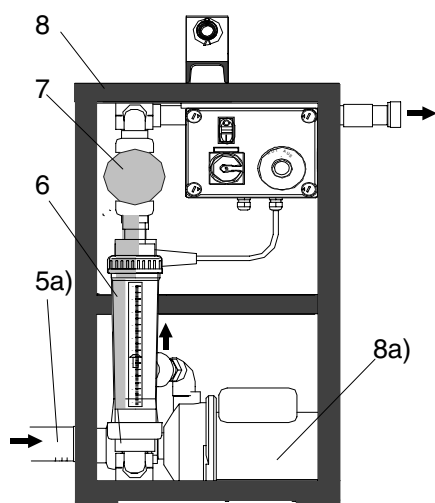

Fig. 2.2
The pump is mounted in a stator (8) which conducts the forces due to weight out of the channel and the vibrations of the pump into the substrate (Fig. 2.2). The pump (8a) is a centrifugal pump with a flanged-on AC motor. On the intake side the pump is connected to the reservoir by way of a tube line $\varnothing 60$ (5a); the volumetric flowmeter (6) is flanged onto the delivery side. In subsequent operation the flow is adjusted by means of the shutoff valve (7) downstream of the volumetric flowmeter.